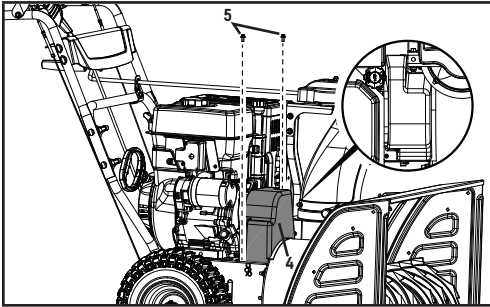

Figure 41
10. Install the plastic belt cover (4) using two M6 × 16 bolts (5) set aside from an earlier step. Torque until snug. Do not overtighten or you risk damaging the plastic belt cover (Fig. 41).